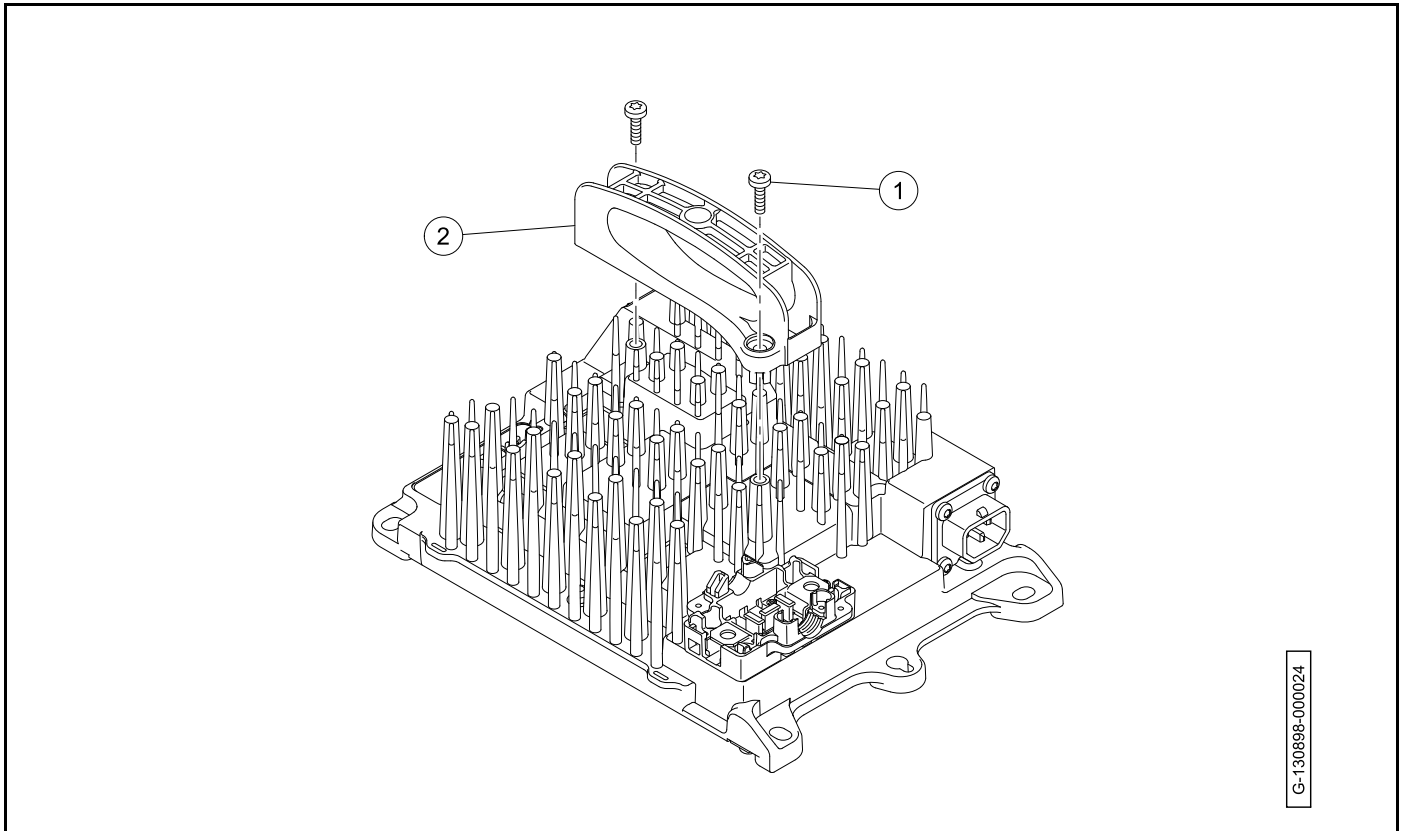

Figure 15-21 Handle
1. Remove the screws (1) (Figure 15-21, Page 15-35).
1. Install the handle (2) on the battery charger (Figure 15-21, Page 15-35).
2. Install the screws (1). Tighten the screws to 39.8 lb·in (4.5 N·m).